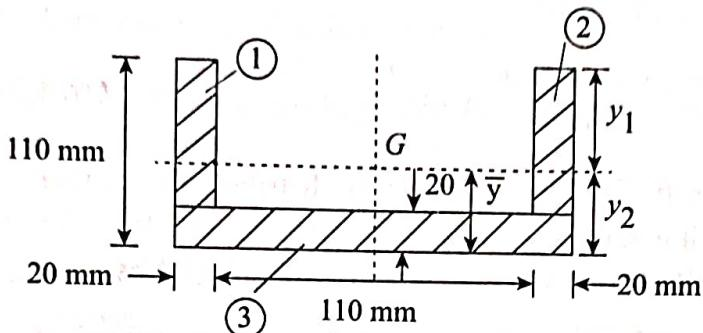

Figure 9.7
**EXAMPLE 9.6:** The horizontal beam of channel cross section as shown in Fig. 9.7 is 2.8 m long and is simply supported at the ends. Determine the maximum uniformly distributed load it can carry if the tensile and compressive stresses must not exceed 35 and 52 N/mm2, respectively. Neglect the weight of channel.